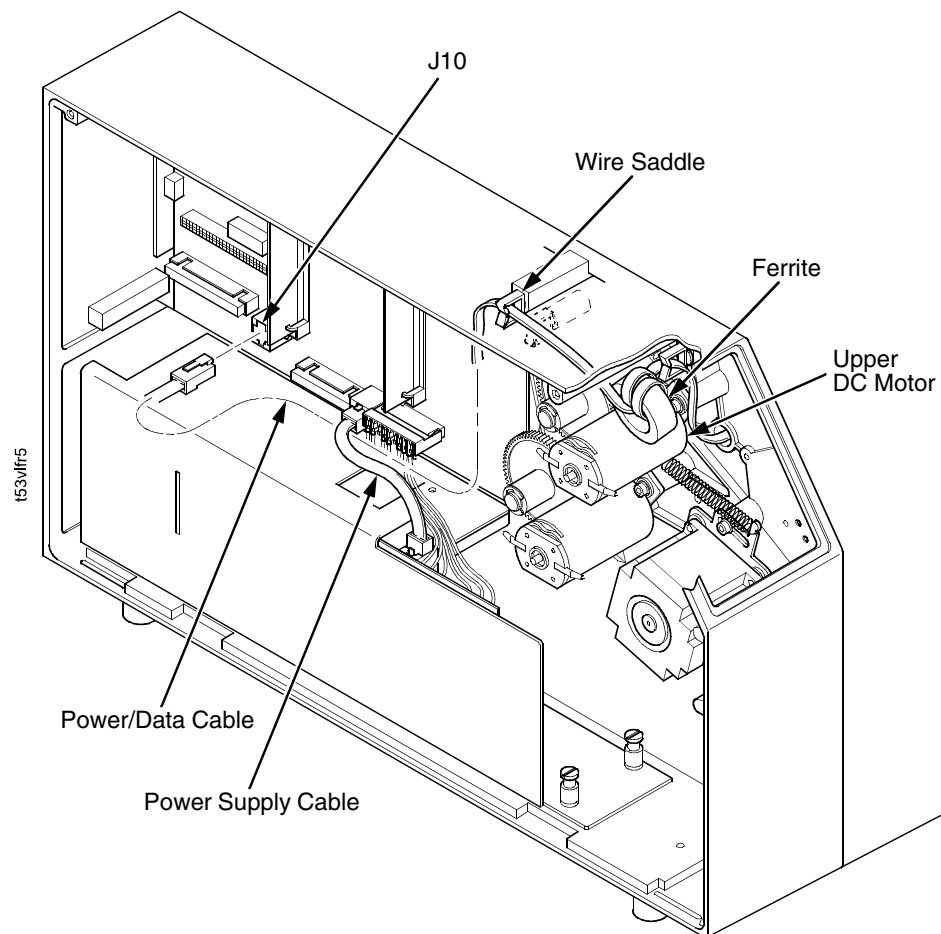

Figure 8. Position the Ferrite
13. On the electronics side of the printer, position the ferrite on top of the upper DC motor. (Figure 8.)
14. Route the power/data cable through the wire saddle, then under the power supply cable as shown in Figure 8.